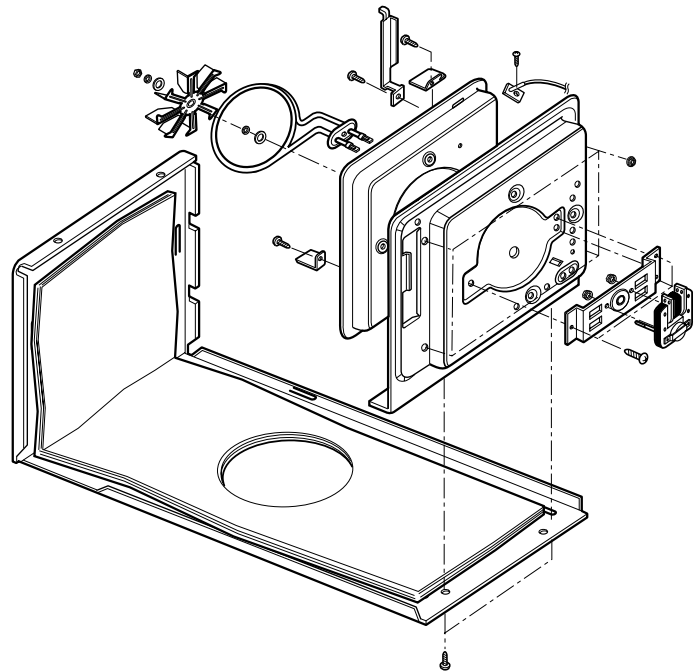

Figure 23
M. REMOVING CONVECTION HEATER AND THERMISTOR (Figure 23)
- (1) Remove the out case.
- (2) Remove the air duct by removing six screws securing it to the oven front plate, guide air and glasswool-L cover.
- (3) Disconnect the wire leads of air duct.
- (4) Remove the magnetron.
- (5) Remove the latch board assembly.
- (6) Remove the bottom plate by removing four screws.
- (7) Remove the four net screws securing chamber assembly.
- (8) Lift the chamber assembly from the oven cavity.
- (9) Remove three screws securing the heater of the chamber assembly.
- (10) Lift the convection heater from the chamber assembly.